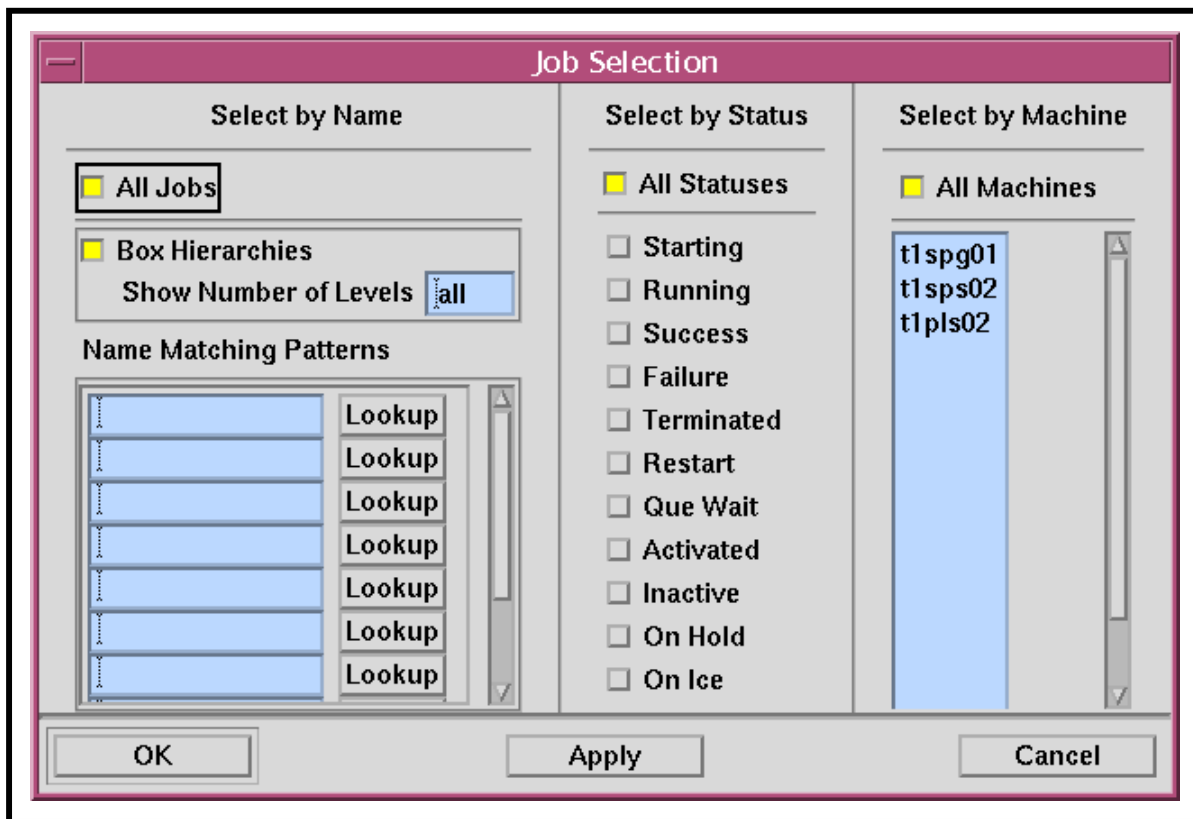

Figure 59. Job Selection Dialogue Box
- **Job Selection** dialogue box (Figure 59) is displayed.